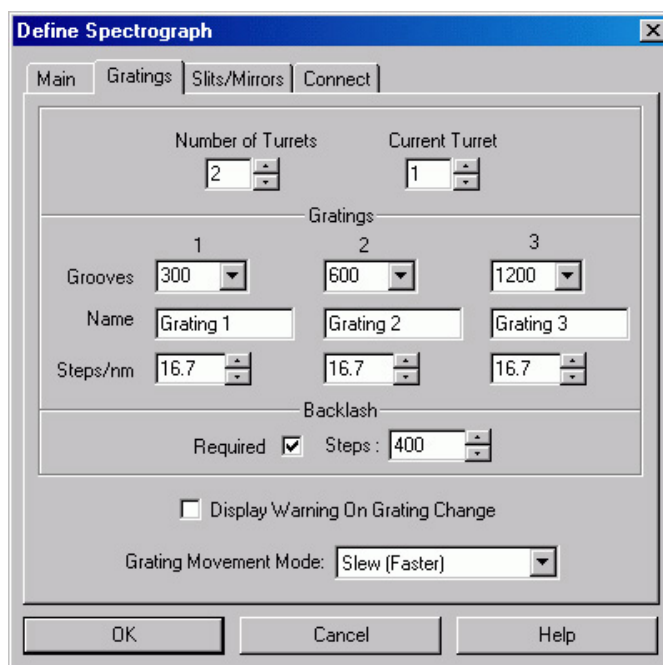

Figure 25. Gratings tab page
5. Set the connection preferences according to the requirements of your spectrograph. For Acton Spectrographs, use the settings shown in Figure 25.
The grating values are required for the dispersion calculation and for the selection of the active grating. Some spectrographs have interchangeable grating turrets, each able to mount up to 3 gratings. Where this is the case, the grating information may have to be separately specified for each turret that may be installed. These parameters are specified on the **Gratings** tab page (Figure 25) of the Define Spectrograph dialog. *In the case of automated Acton spectrographs, the grating information is automatically supplied.*